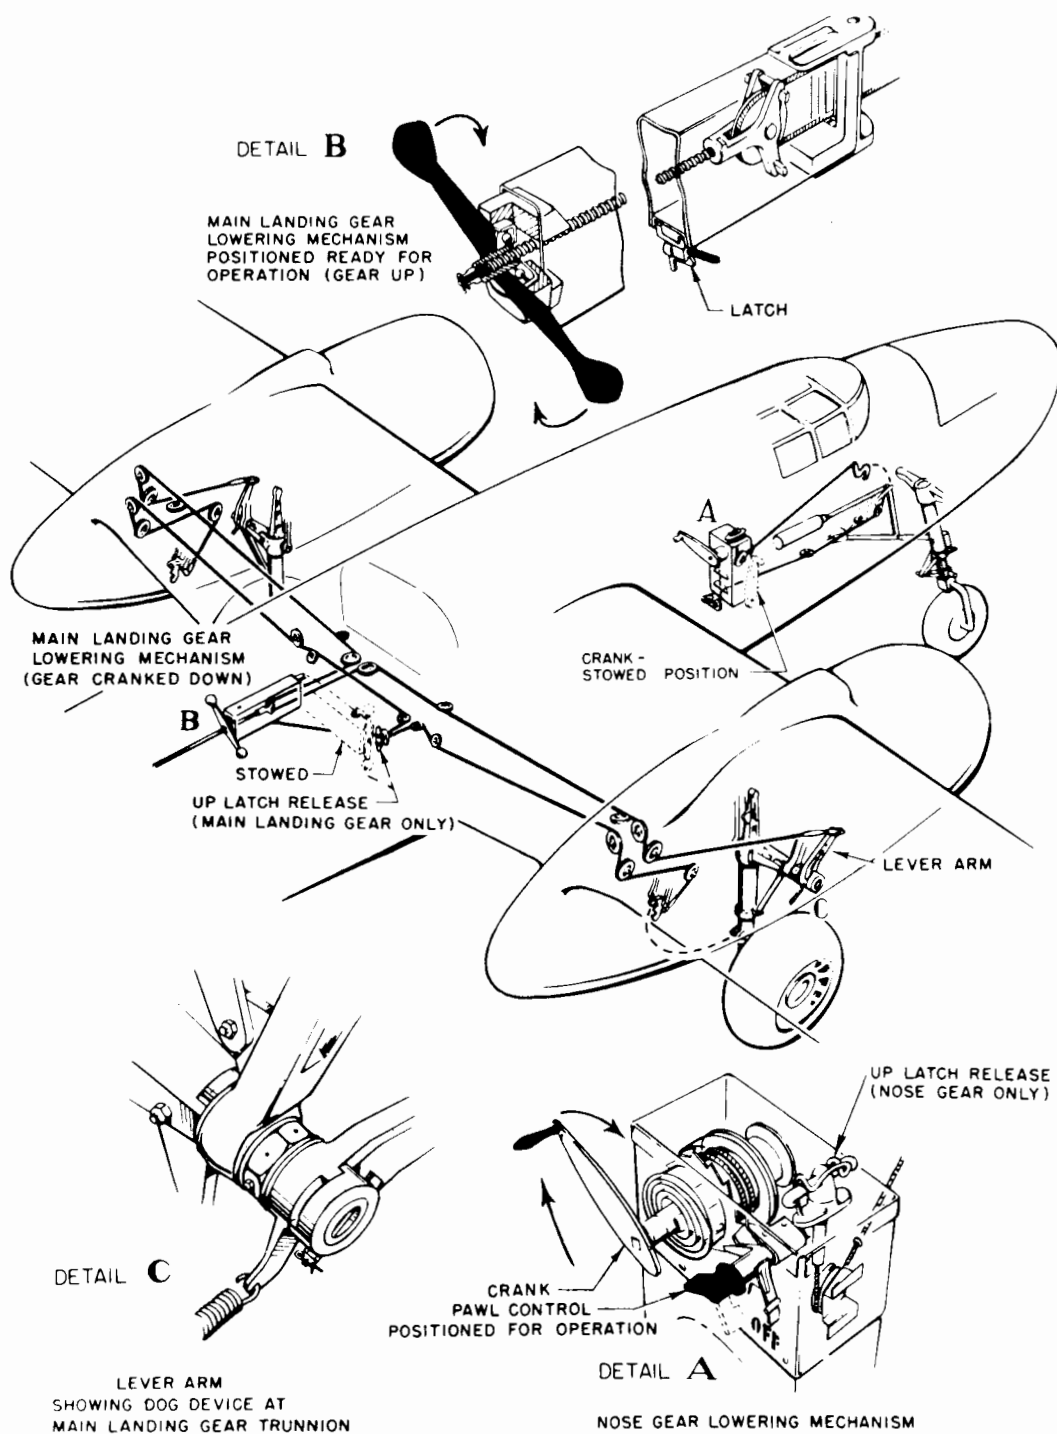

Figure 47 - Landing Gear Emergency Lowering Systems
(5) Pull main landing gear up-position latch release, located adjacent to lowering screw. This control releases the main gear up-position latches only, and allows the main gear to partially lower due to its own weight. Check visually or on pilot's landing gear position indicator that both main gears are partially lowered before using the lowering mechanism.
(6) Turn lowering screw lever clockwise (figure 47) until indicators register the main gear is down and locked.